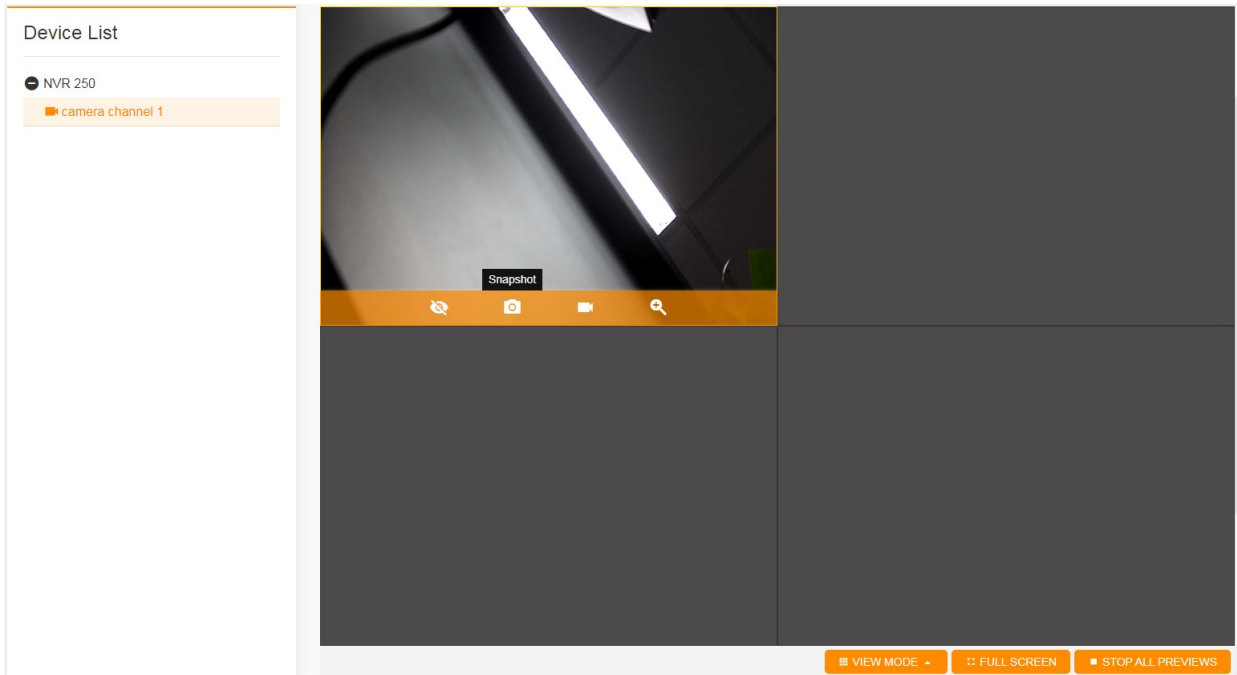

Figure 14-17 Snapshot
1. Select the corresponding small window, hover the cursor over the bottom of the window, and click the **Snapshot** button, as shown in Figure 14-17.